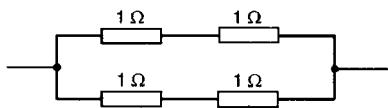

Figure 5.17
- (b) **Two in series, in parallel with another two in series** (see Fig. 5.17), since  $1\Omega$  and  $1\Omega$  in series gives  $2\Omega$ , and  $2\Omega$  in parallel with  $2\Omega$  gives